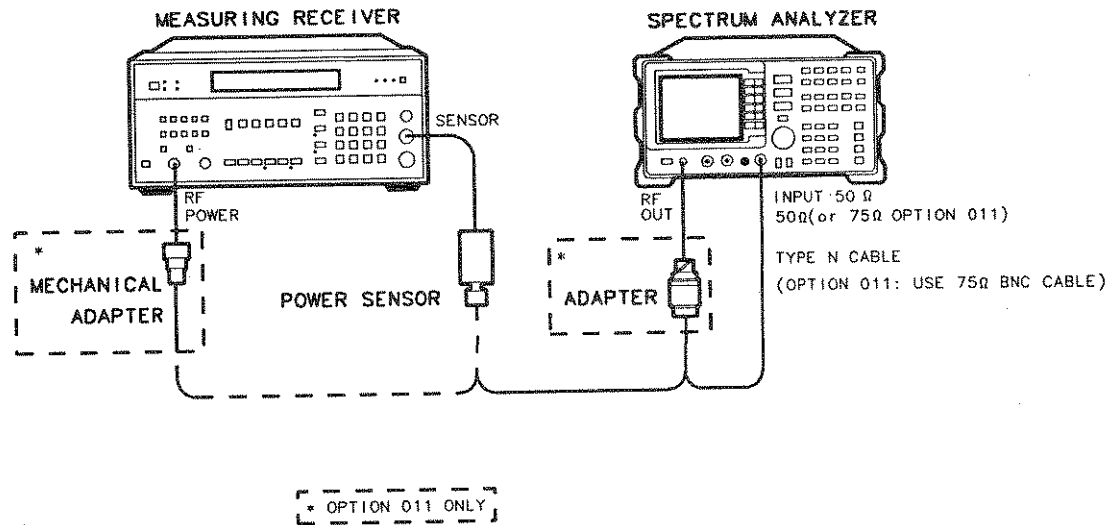

Figure 3-26. Absolute Amplitude, Vernier, and Power Sweep Accuracy Test Setup
1. Connect the Type N cable between the RF OUT 50Ω and INPUT 50Ω connectors on the spectrum analyzer. See Figure 3-26.
6. Disconnect the Type N cable from the RF OUT 50Ω and connect the power sensor to the RF OUT 50Ω as shown in Figure 3-26.